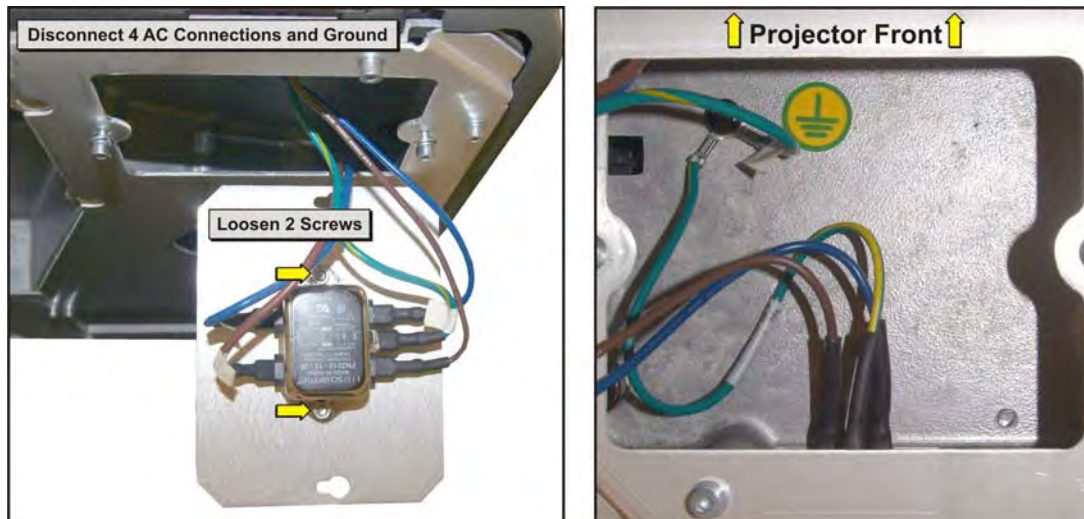

Figure 5-47 AC Terminal Block
3. Using a #2 Phillips™, remove the two screws securing the AC terminal block to the baseplate. **(Figure 5-47)**